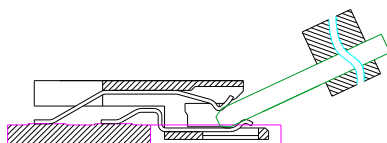

Fig. 9.3
**Step 3rd:** Module will be rotated automatically due to connector contact's counterforce at the same time (see Fig. 9.3).